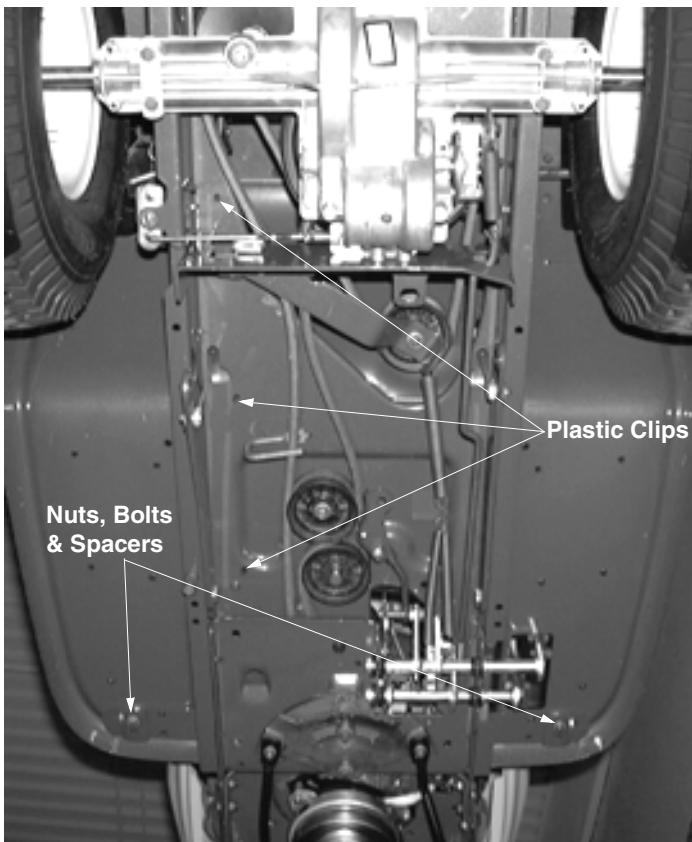

Figure 3
7. Remove and discard the hex flange nuts and bolts attaching front of the fender assembly to the mounting brackets. Also remove and discard the spacers, if present, from between the fender assembly and brackets. See Figure 3.
8. Cut plastic harness clips where shown and push up through holes in frame. See Figure 3.